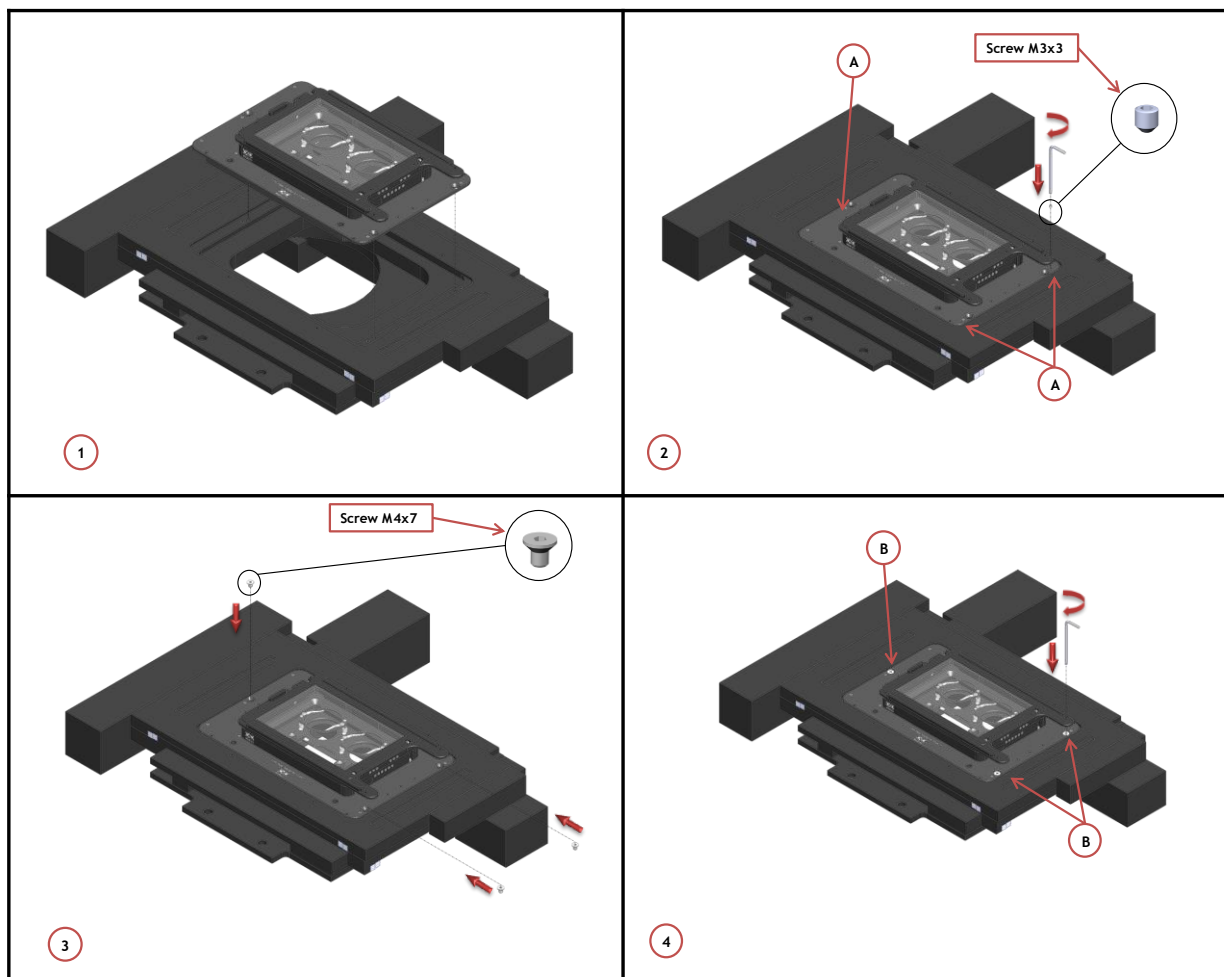

Figure 24. How to fix the H201-NIKON-TI-S-ER to the XY stage.
Once you have assembled the chamber with adapter you can place it on the XY stage, following the steps shown in Figure 24.
1. Place the adapter on the stage (See Figure 24 Image 1).
2. Use the Grub screws to align correctly the adapter on the stage. Grub screws housings are indicated with letter A in Image 2 of Figure 24.
3. Follow the arrows shown in Image 3 of Figure 24 for placing flat socket head cap screws; use the provided Allen wrench for tightening the flat socket head cap screws and fastening the adapter on the stage. Screws housings are indicated with letter B in Image 4 of Figure 24.